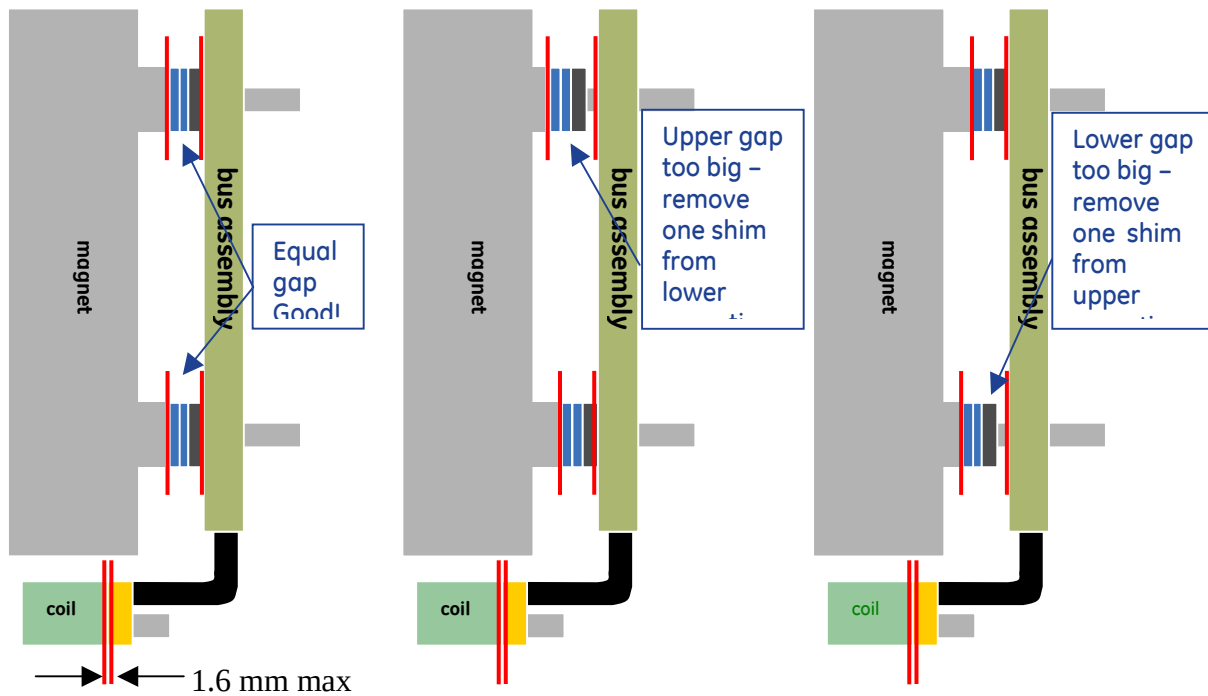

Figure 70
- G. If the upper and lower gaps are not equal remove the shim from the mounting point with less gap. Remove both shims (on either side of magnet centerline) from the mounting point. **(Fig 70).**
- H. Check the gap between the lugs and the end of the gradient outer coil. If any of these gaps exceed 1.6 mm remove a shim from each of the four mounting locations and re-check the mount point gaps. **(Fig 70).**